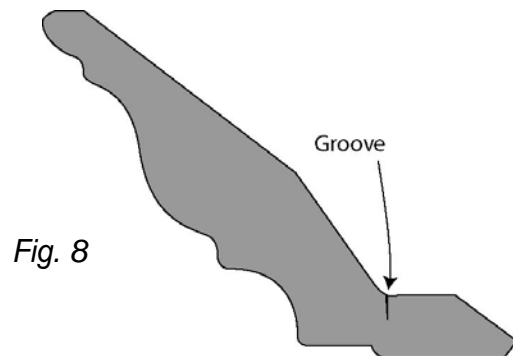

Fig. 8
2. Mark your first measurement, for example, begin left to right in installation of *Fig. 7*, using the shelf depth as your first cut to mark. From the 90° end cut of the panel, mark the distance 14" **in the groove** on the back of the molding (*Fig. 8*). (The groove is aligned directly over the front edge of the top of the cabinet.)